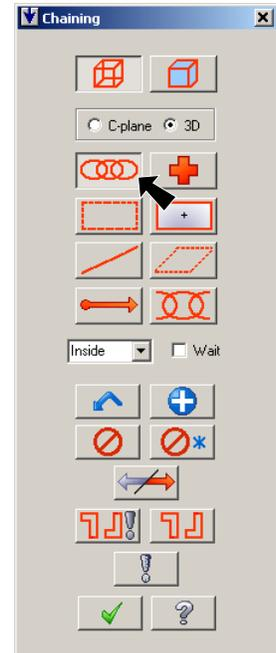

Fig. 60
Step 4. Select **Chain**  in Chaining dialog box, **Fig. 60.**